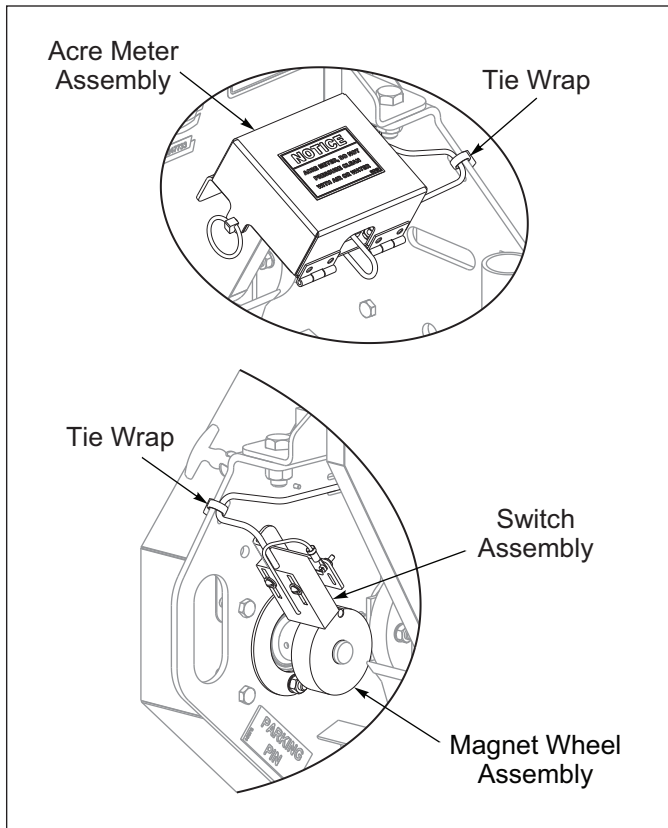

Figure 2-13: Secure the Acre Meter Cords
9. Securely fasten the cords with tie wraps to the Seeder Frame End Plate to prevent cords from becoming entangled or rubbing on moving parts. **See Figure 2-13.**